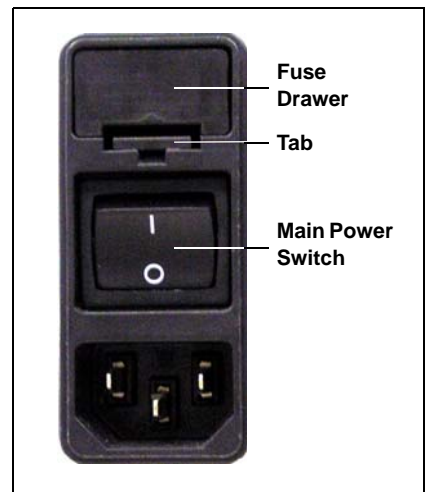

Figure 5-22. Fuse Drawer
2. The fuse drawer is located above the main power switch (see Figure 5-22). A small tab locks the fuse drawer in place. Using a small screwdriver, press the tab *in* and *then up* to release the fuse drawer.